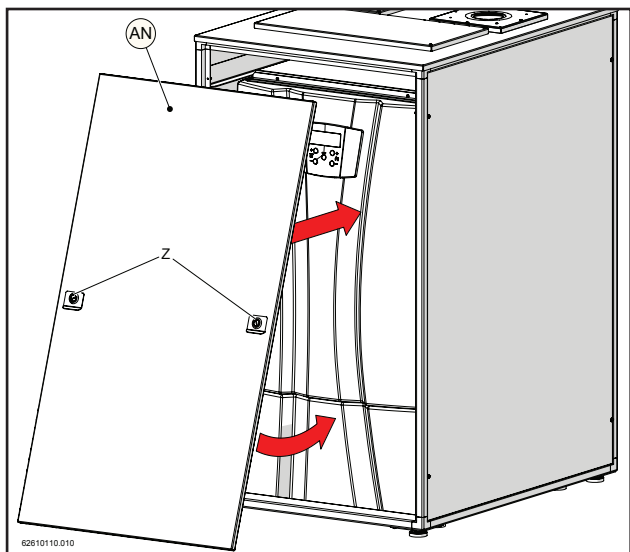
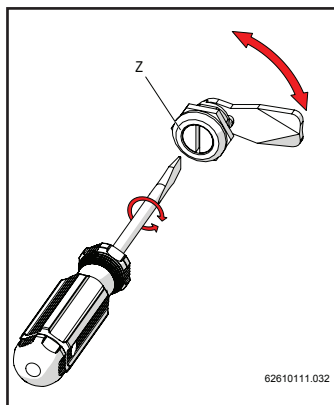

Figure 15-27
Figure 15-29
- 15.- Put on the front cover (AN) as shown in figure 15-27 and 15-28. Attach it to the structure by tightening locks "Z" with a flat-head screwdriver (figure 15-29).